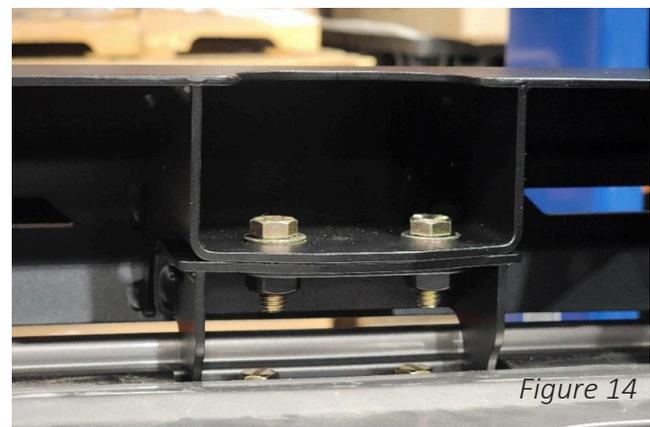

Figure 14
13. Use the provided 4x nut plates 23436 and 3/16" hardware to attach the rack to the four corner mounts. Place a small amount of the provided 242 Loctite on each bolt before installation Figure 14.